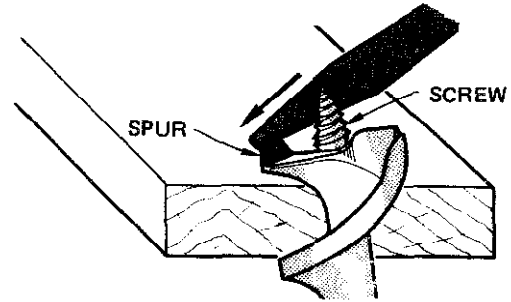

Fig. 10-13 Sharpening the spur.
2. Rest the bit on a board with the screw pointing up. File the inside of the spurs with the flat side of the file, using only forward strokes to produce the filing action. See figure 10-13.